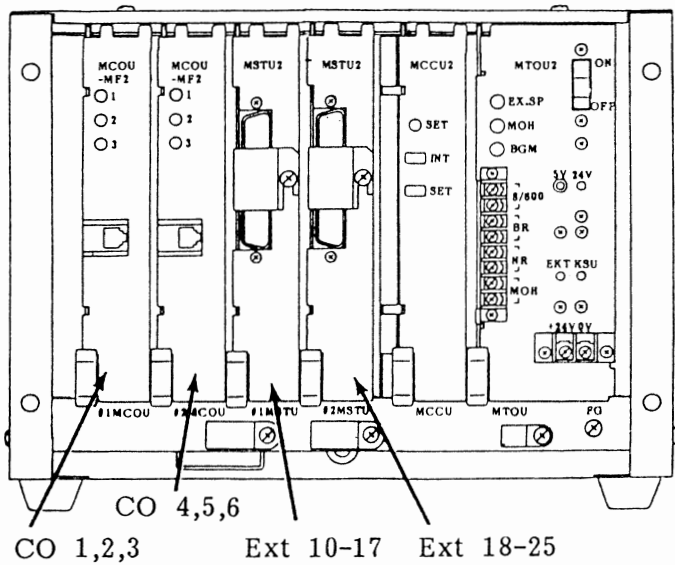

FIGURE 7
06.12 Install the MTOU PCB in the MKSU as shown in Figure 7.
06.33 Install the MCCU in the correct MKSU position (Figure 7).
06.34 Follow the position arrangement in Figure 7, and install the required MSTU PCB(s).
06.35 Select the proper type of MCOU PCB (MF or DP) and install the required number in the position(s) shown in Figure 7.